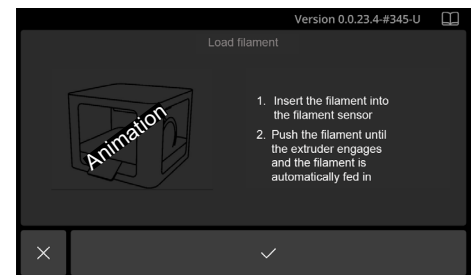

Fig. 8
- ⇒ Tap the "Filament" button on the "Home" screen (Fig. 8).